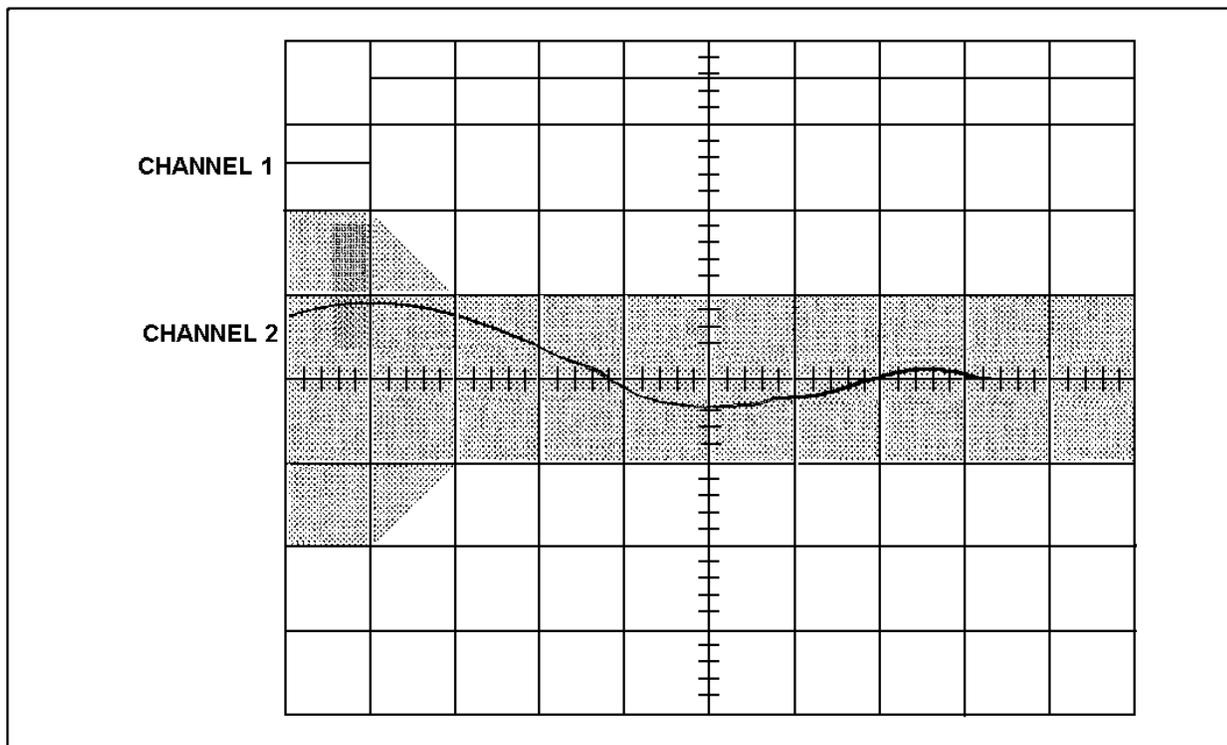

Figure 7 - Scope Display
12. Compare the waveform against Figure 7. The channel 2 trace should lie within the shaded region.